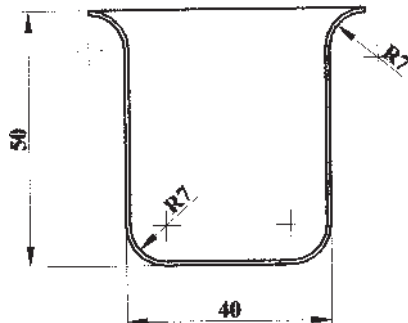

Fig: 3
3. Design a drawing die for the shell shown in fig.3 drawn from CRC sheet of 0.8 mm thickness and $UTS = 240N/mm^2$. 16